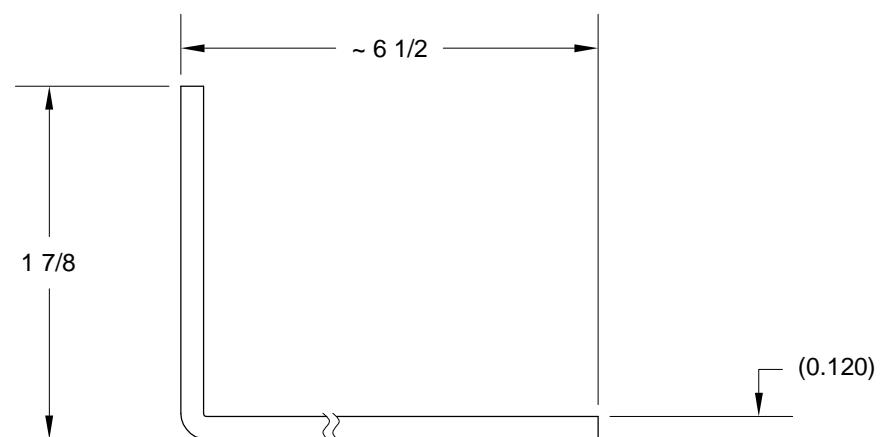

FIGURE 3: FABRICATING THE COWL BOT HINGE PINS
Step 3: Make two F-1001U Cowl Both Hinge Pins from SSP-120 hinge pin per the dimensions in Figure 3. These pins will replace the soft aluminum pins provided for the F-1001Q Cowl Attach Hinge.